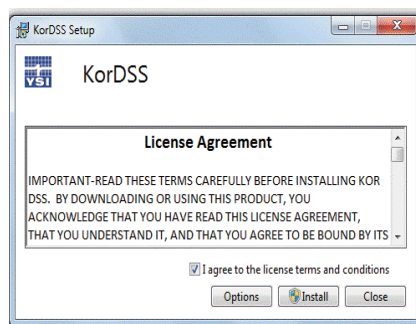

Figure 79 KorDSS license agreement
4. Check the license agreement box. Click **Install** (Figure 79).